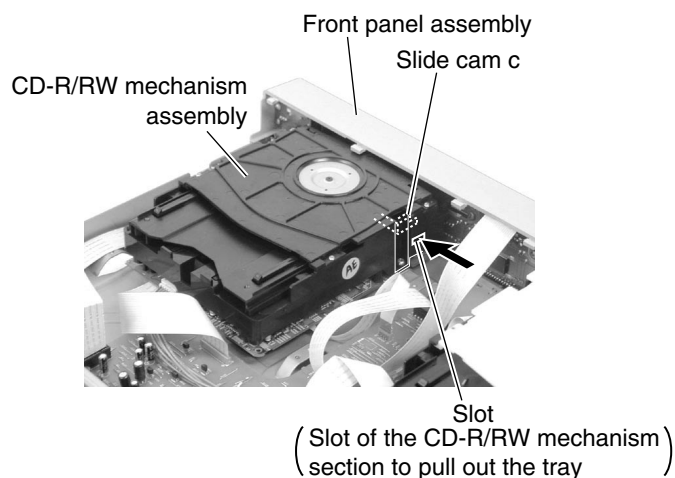

Fig.6
■ Removing the fitting of the CD-R/RW mechanism section (See Fig.6 to 9)